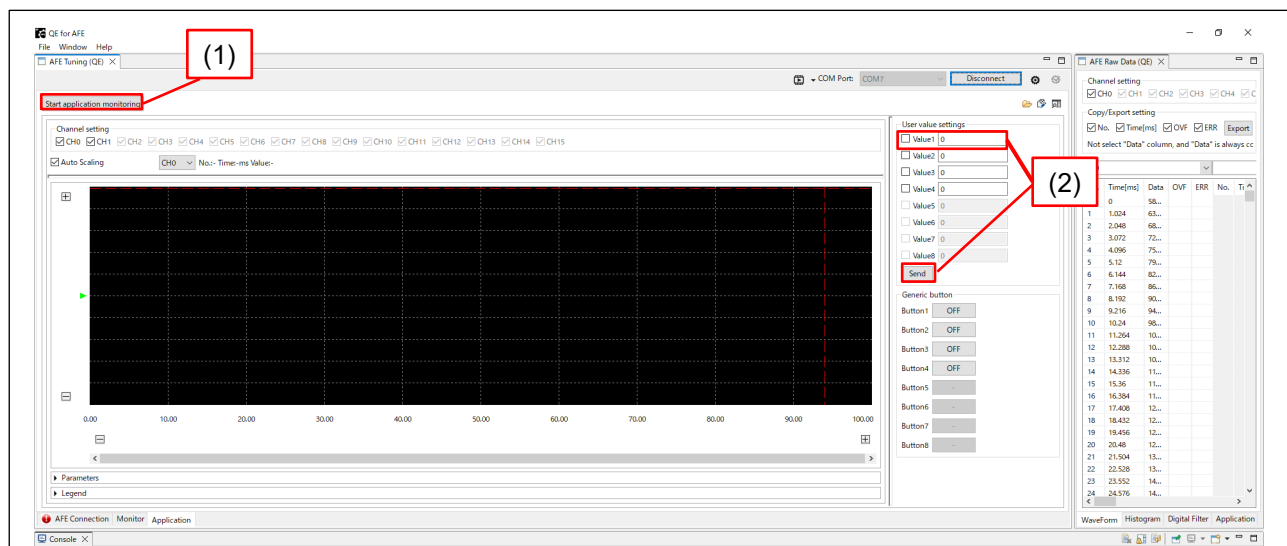

Figure 4-3 QE for AFE Window (Application Tab)
(1) Select the COM port to connect to the board.
(2) Set the bit rate to 4,000,000.
(3) Press the “Connect” button.
On the Application tab shown in Figure 4-3, press (1) “Start Application monitoring” to acquire the measurement result. The measurement result is displayed with CH0.
To adjust the weight conversion coefficient to the load cell to be used, perform calibration. Follow the calibration procedure below on the Application tab as shown in Figure 4-3. For details, refer to Table 1-1 and “6.3 Calibration” in the Application Note.
- 2) For Value 1 of (2) User value setting in Figure 4-3,
For Value 2 of (2) User value setting in figure 4-3,
On the Application tab shown in Figure 4-3, press “Start Application monitoring” to acquire the measurement result. The measurement result is displayed with CH0.